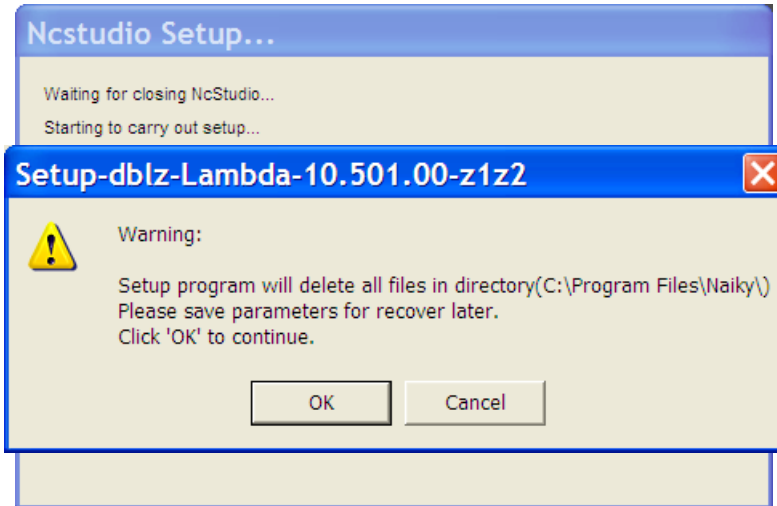

Fig. 2-2 Warning to delete previous files
- 3) Select [ENGLISH] to begin the installation. To avoid interference of old version software to the installation of the new one, the system prompts that the setup will delete all files of the old version software, see Fig. 2-2.